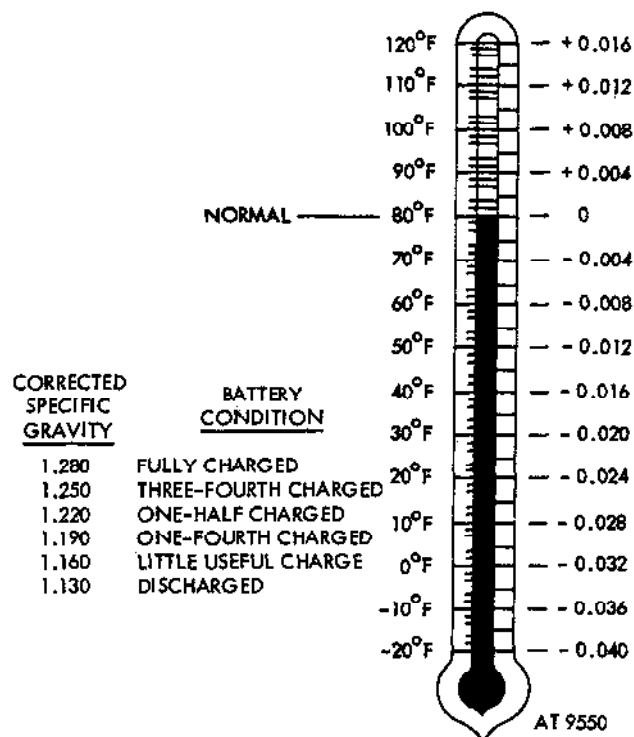

Figure 2-16. Hydrometer temperature correction chart.
(2) The electrolyte in a cell should be at the normal level when the reading is taken. If the level is below normal, the reading will be high. On the other hand, if the battery has been overfilled, the electrolyte will be weakened and the reading will be low.
(3) When water is added, it will tend to remain at the top of the cell and a hydrometer reading will be inaccurate. If it is necessary to add water to the battery before taking a reading, the battery should be charged for 1 or 2 hours to mix the electrolyte before the hydrometer is used. This may be done by connecting the battery to a charger or by operating the vehicle.
(4) Gravity readings may also be misleading if taken immediately after a battery has been discharged at a high rate, such as in prolonged cranking. Wait several hours before taking a specific gravity reading.
(5) When the temperature of the electrolyte is much greater or much less than 80°F., the specific gravity indication on the hydrometer will not be accurate. A temperature correction must be applied to the reading to obtain the correct specific gravity. Figure 2-16 shows the amount of temperature correction to be applied, and how to estimate the condition of the battery from the temperature-corrected specific gravity.